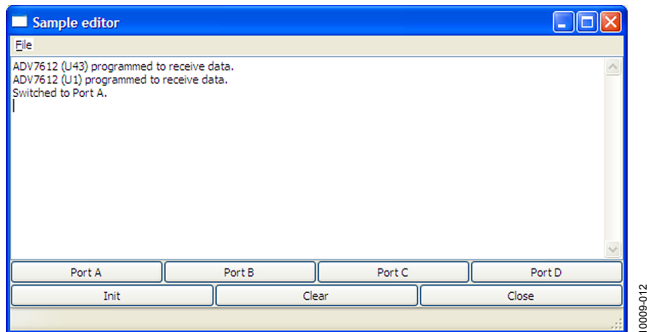

Figure 12. Software Used for Selecting HDMI Input
5. Press Init button. Once board is initialized, click one of the buttons: Port A, Port B, Port C, or Port D to select desired input (see Figure 12).